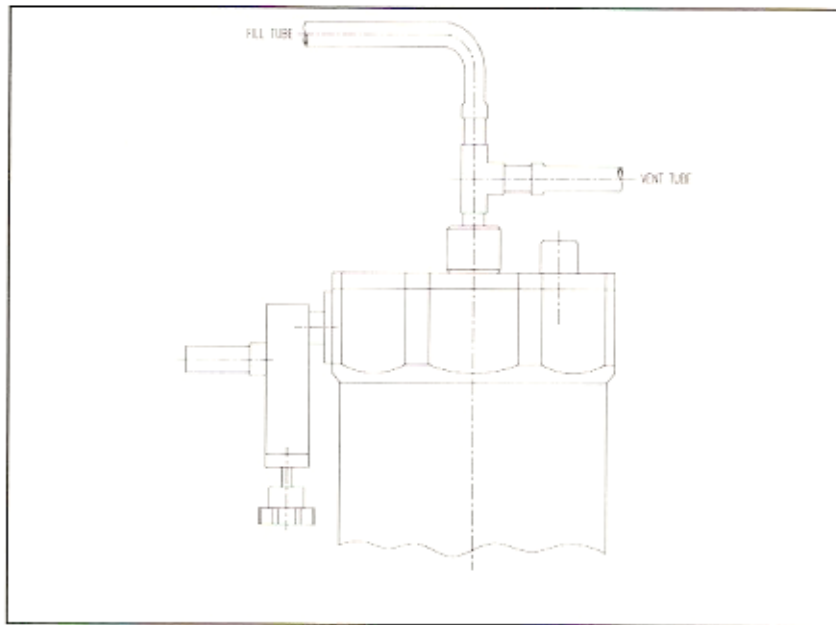
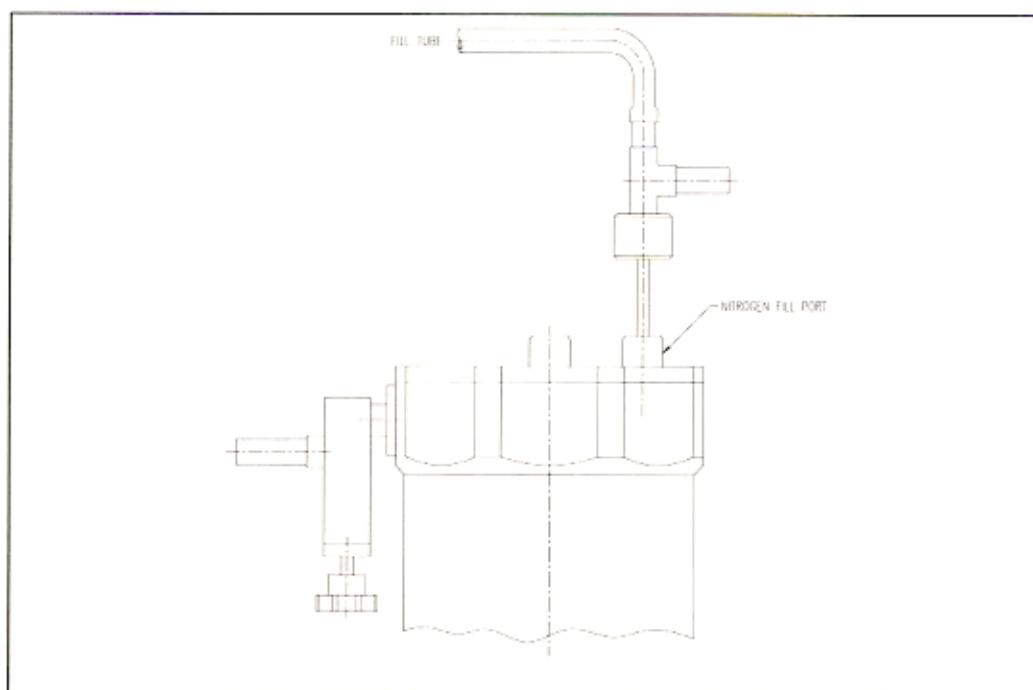

FIGURE 4 -- Filling the Helium (inner) Vessel
FIGURE 5 -- Filling the Nitrogen Vessel
- (4) Connect a hose suitable for liquid nitrogen service to the fill tube port that extends axially from the dewar, Figure 4. Surgical tubing of 5/16" ID works well and is easy to use.
- (5) Optional. Attach a section of surgical tubing to the fill vent tube, the tube which extends out radially from the filling attachment (see Figure 4). This is done to direct the cold vent gas and, eventually, liquid away from people and sensitive equipment.
- (6) Connect the fill hose to a pressurized storage dewar of liquid nitrogen. Open the supply valve to allow the liquid nitrogen to flow into the test dewar. Keep filling the test dewar until there is a steady stream of liquid nitrogen flowing from the vent port. Depending on the size of the dewar, this step should take from 3-20 minutes.
- (7) Shut off the supply valve and allow the hoses to thaw. Once the hoses are again bendable, remove both of them from the filling attachment. The attachment can be removed at this time. The dewar inner vessel is now "pre-cooling." Pre-cooling times vary depending on the amount of cooled mass inside the dewar. Refer to the cryogenic test data for your individual dewar to determine the optimum pre-cool time for your dewar.
- (8) Insert the nitrogen fill device into the nitrogen fill port, making sure it goes to the bottom of the nitrogen vessel (Figure 5).